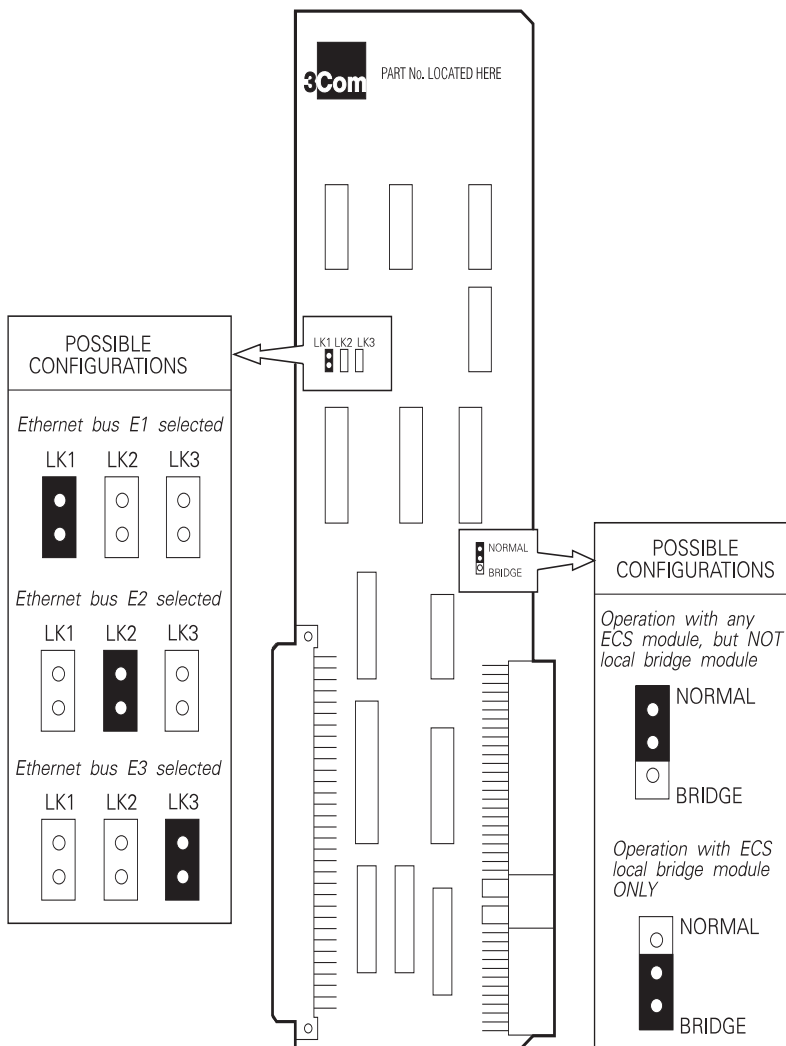

Figure 3-6 Setting the switch position on the converter
- 1 Locate the block of three link positions LK1, LK2 and LK3 on the converter: see Figure 3-6. The position of the link itself determines